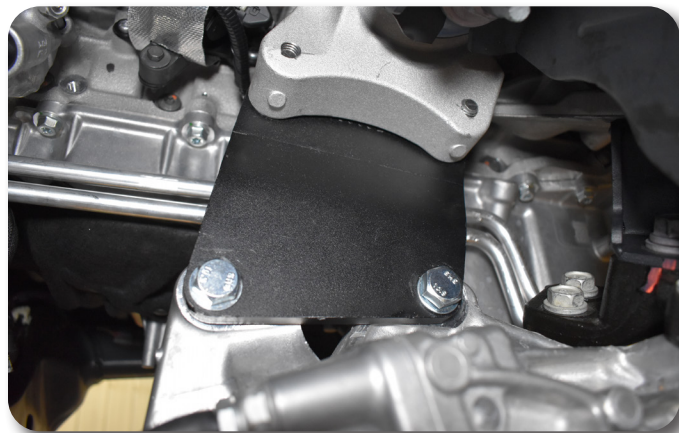

Figure 32
55. Attach the differential to the driver's side front bracket and passenger's side bracket with 12mm x 60mm bolts, nuts and washers. Figure 32